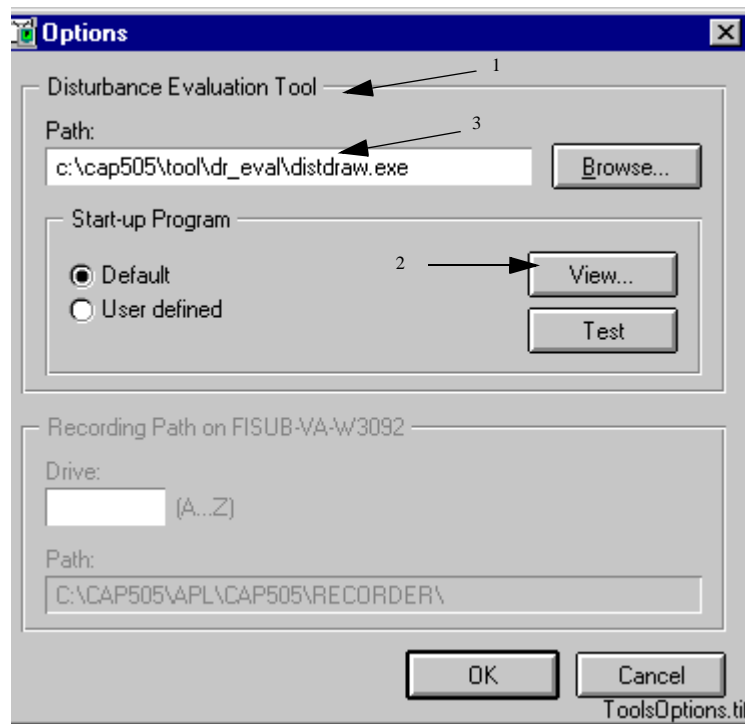

Fig. 5.2.4.3.-3 Options dialog
In the Options dialog, the Disturbance Evaluation Tool group box (see Fig 5.2.4.3.-3, item 1) concerns both CAP 501/505, SMS 510, and LIB510/MicroSCADA. The Recording Path ... group box (see Fig. 5.2.4.3.-3, item 3) applies only to LIB510/ MicroSCADA.